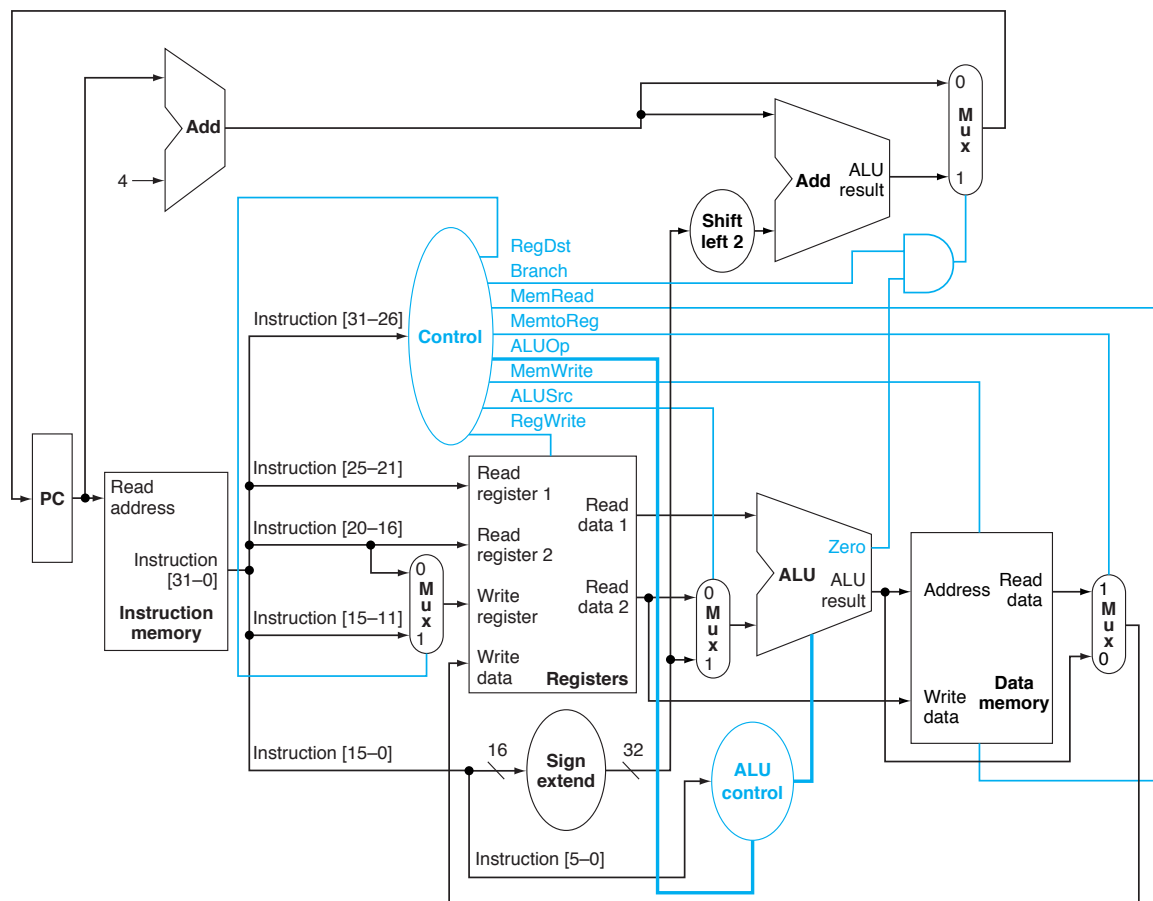

Fig. 1: Control Datapath
3. How would you extend the single cycle datapath in Figure 1 to implement **bne** (Branch on not equal) instruction? This is similar to **beq** except that the branch is taken when the values are not equal. Explain your work briefly.
4. The processor needs to compute the next PC after each instruction. Write a verilog module which computes the next PC? Include the `j`, and `beq` cases. You may use the output of the “Control” module as shown in Figure 1.
5. How would you extend the single cycle data and control paths in Figure 1 to implement the `jr` (Jump To Register) instruction?